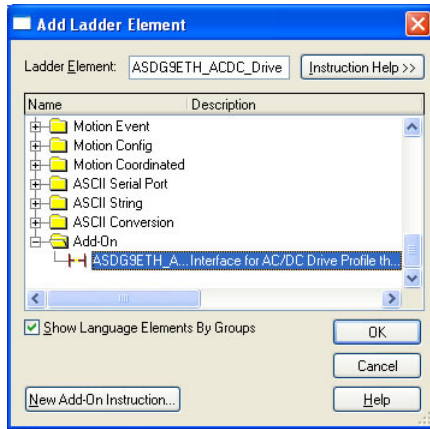

Figure 91: Add AC/DC Drive Profile AOI
- 8) Select the AC/DC drive profile AOI in the Add-On folder. Refer to Figure 91.